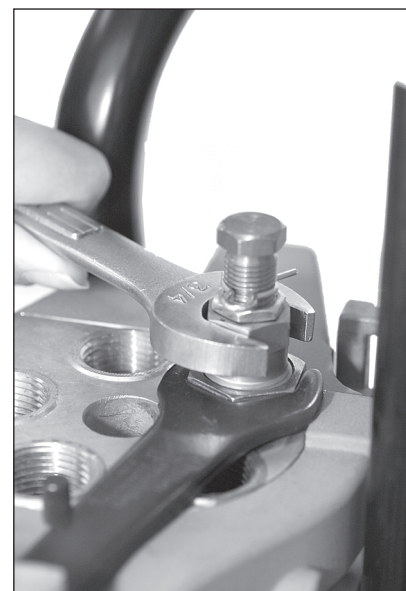

FIG 82
9. Run the locking down until it contacts the toolhead. Using a 1” wrench to turn the locking and a 3/4” wrench to hold the die body, snug the locking FIG 82.